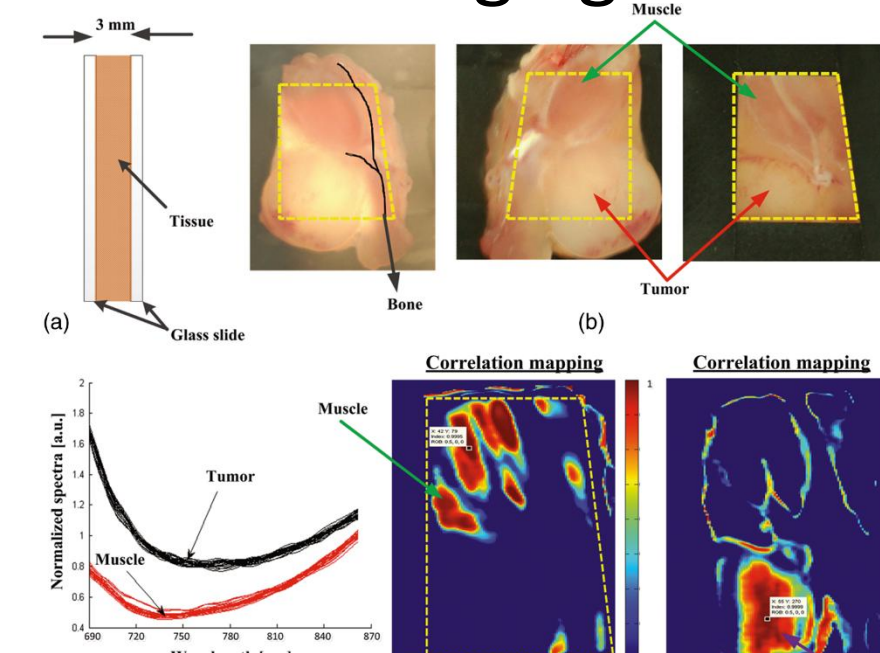

Fig. 8. Tumor detection in the NIR band
- Fig. 8: <http://biomedicaloptics.spiedigitallibrary.org/mobile/article.aspx?articleid=1816617>